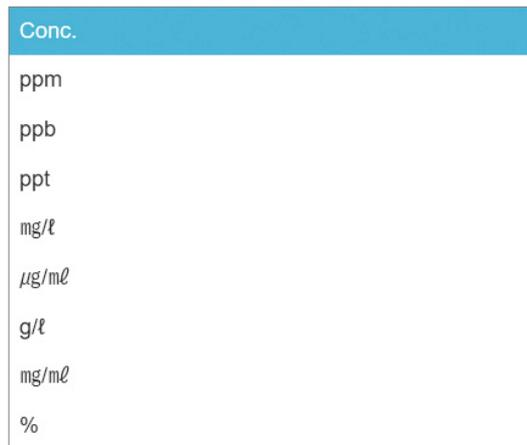

Fig. 3.11
2. [Fig. 3.11] Select a unit to use.